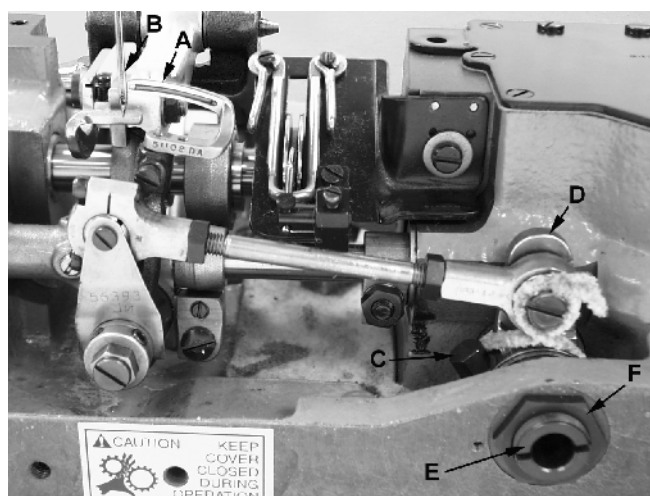
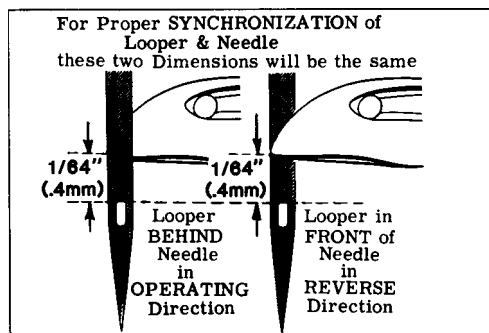

Fig 4
Fig 4A
Turn handwheel in the operating direction until the point of the looper (A, Fig. 4) moving to the left, is even with the left side of needle (B). Note the height of the eye of the needle with respect to the looper point (See Fig. 4A). Turn the handwheel in the reverse direction until the point of the looper again moving to the left, is even with the left side of needle (See Fig. 4A). If the height of the eye of the needle with respect to the looper point are the same, looper and needle motions are synchronized - a variation of .005 inch (.127mm) is allowable. If the distance from the eye of the needle to the point of the looper is greater when the handwheel is turned in the operating direction, the looper drive lever rocker shaft will have to be moved slightly towards the rear. Moving the shaft towards the front acts the reverse.
NOTE: The 1/64 inch (.4mm) dimension shown in Fig. 4A is for final setting of needle bar height.
Loosen screw (C, Fig. 4) in looper drive lever (D). A rod of .146-40 thd. or Union Special Screw No. 22870 A can be threaded into the looper drive lever rocker shaft through the center of thrust adjusting screw (E). Tap or pull slightly as required to position shaft for proper synchronization. Tighten screw (C) securely and remove rod or screw used to position shaft.